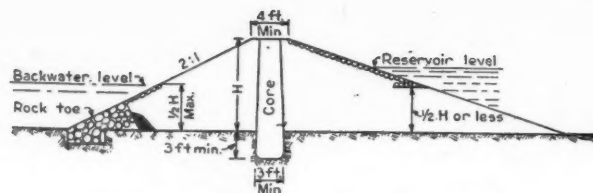
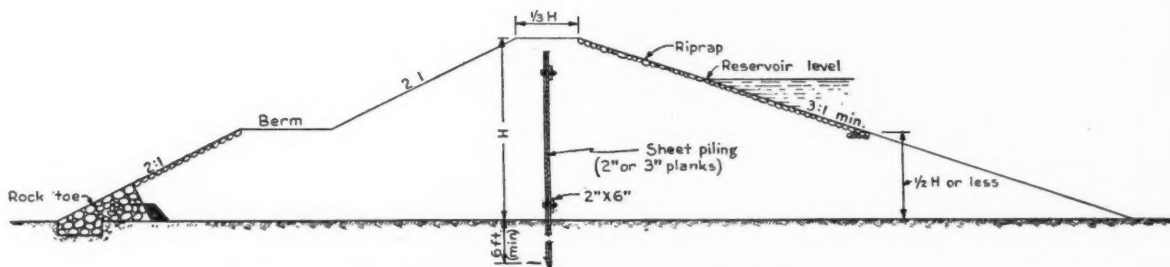
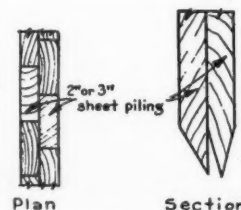

Fig. 3. Cross section of earth dams 12 feet high or less.
Fig. 4. Cross section of earth dams 12 to 20 feet high.
Fig. 5. Details of timber sheet piling.
Figs. 3 and 4 show two forms of earth dam, the latter with a berm. Both are somewhat defective in showing a smooth and level joint between the dam and the earth. Referring to Fig. 3, the entire area covered by the dam should be plowed. In Fig. 4, in addition to plowing, a trench should be excavated, about 4 ft. wide and 4 ft. deep under the center line of the dam, and backfilled with selected material, well compacted.
vides a starting point for determining unusual needs. Figs. 3 and 4 show dams that are perhaps deficient in top width. The formula  $W = 2 H^{1/2} + 3$  is used, where  $W$  is top width and  $H$  is maximum height of embankment in feet. For a 25-ft. high dam,  $W = 2 \sqrt{25} + 3 = 13$  ft., whereas  $0.2 H + 5$ , stated above, provides a 10-ft. width. Either is safe and satisfactory.
**Wooden Diaphragms.**—A double row of wood sheet piling should be used where burrowing animals present a problem, and represents good practice at all times. Such construction is shown in Fig. 4, and the details of the piling are shown in Fig. 5. Good timber 2 ins. thick should be used, and the planks should be staggered and securely bolted together. This should be carried down through shallow underlying porous strata, as already stated; it should extend upward to about 1 foot above the maximum height of water with the spillway carrying its maximum flow.
**Puddle Core Wall.**—A trench should be dug for the core wall, as shown in Fig. 3, and the wall should be carried up 2 to 4 ft. above high-water with full spillway discharge. The thickness of a puddled core wall at any point should be not less than one-third the height of the dam above that point. That is, for a dam 18 ft. high, it should be 6 ft. thick at the base and 3 feet thick half way up. At the top it should be at least 2 feet thick.
**j. Protection for Earth Dams.**—The downstream slope of the dam should be protected with a rock toe and riprapped, as shown in Figures 3 and 4. Collecting drains may be used to drain the downstream face, to dry out wet foundations and prevent saturation of the downstream toe. Berms may be desirable on larger dams.
If the reservoir covers more than two or three acres of area, an earth dam should be protected against wave action. This generally should be confined to rock riprap, which is also placed on the downstream face of the dam, as shown in Figures 3 and 4. If no large stones